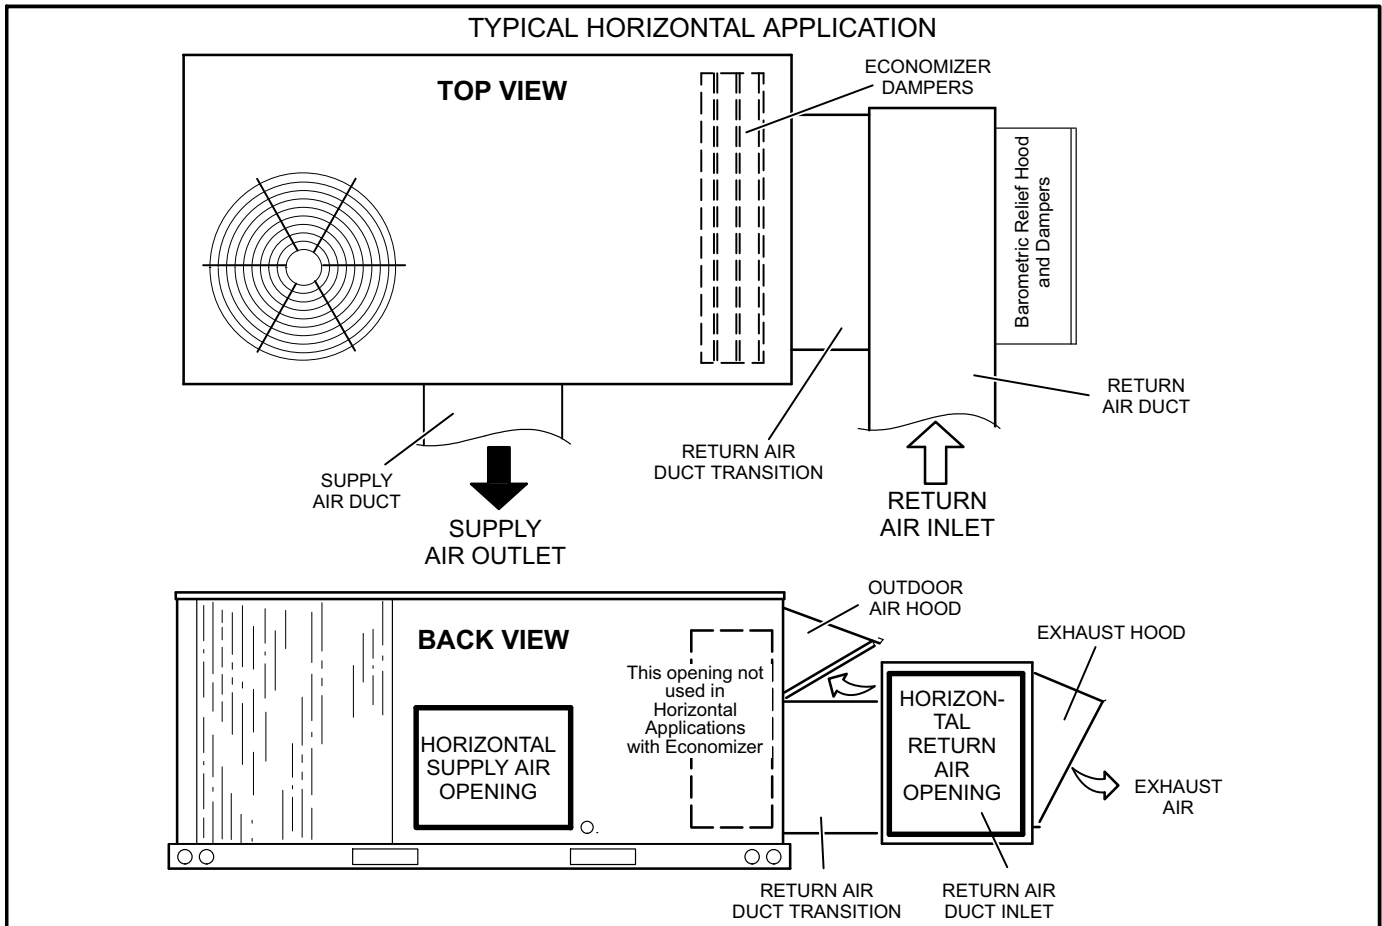

FIGURE 14
- 5- Install the field-fabricated return air duct transition and duct inlet on the unit end. See figure 14. Support the transition and duct inlet as needed.